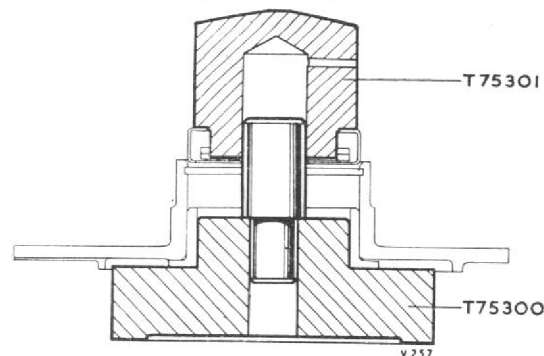

Fig. 10. Pressing a replacement seal into the bottom cover of the starter adapter
- * (10) Position a new seal (Part No. 96505) on adapter T75301.
- * (11) Position the seal and adapter over the mandrel of the press block, and press the seal into the cover (fig. 10).
- * (12) Using Seeger pliers, secure the seal with a new circlip (Part No. N4227).
- * (13) Remove the bottom cover from the press block.
- (14) Using guide mandrel and adapter T75302, assemble and secure the bottom cover to the starter adapter.
- (15) Assemble the starter adapter with the correct size adjusting shim, determined during Op. 5, to the top wheelcase and secure it with six plain and spring washers and $\frac{1}{4}$ in. B.S.F. nuts.
- (16) Assemble the nipples to each end of the oil feed pipe and secure the pipe to the union in the air-intake casing and the banjo on the top wheelcase.
- (17) Blank off the remaining unions.
- (18) Remove the assembly from the build stand using lifting sling T72380.